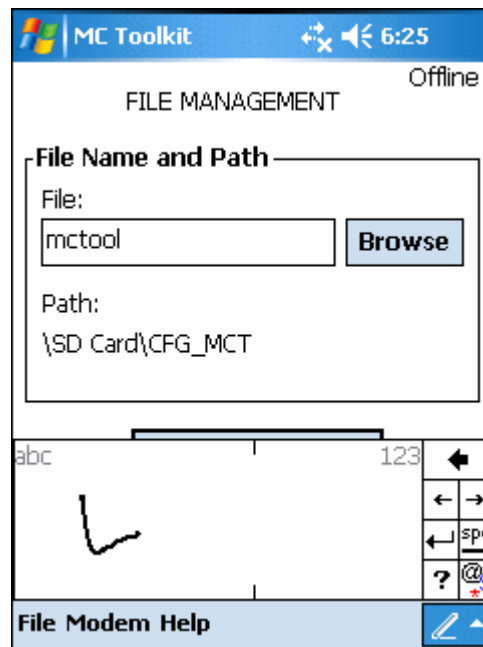

Figure 3-7 Block Recognizer
2. Use the stylus to provide a character input to the letter pad at the bottom of the screen. The character strokes are then converted to typed text on the screen as shown below in Figure 3-7.